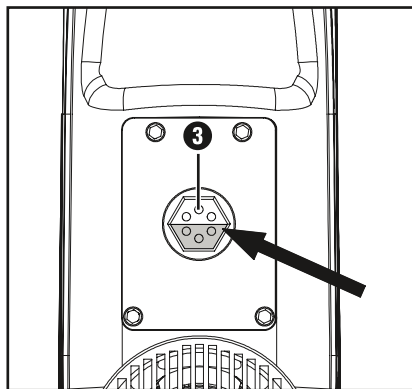

Fig. 1
- ◆ Hold the appliance with the tool holder ⑥ facing upwards.
- ◆ Look in the oil inspection window ③ on the underside of the appliance to see whether there is sufficient oil in the appliance (see fig. 1).